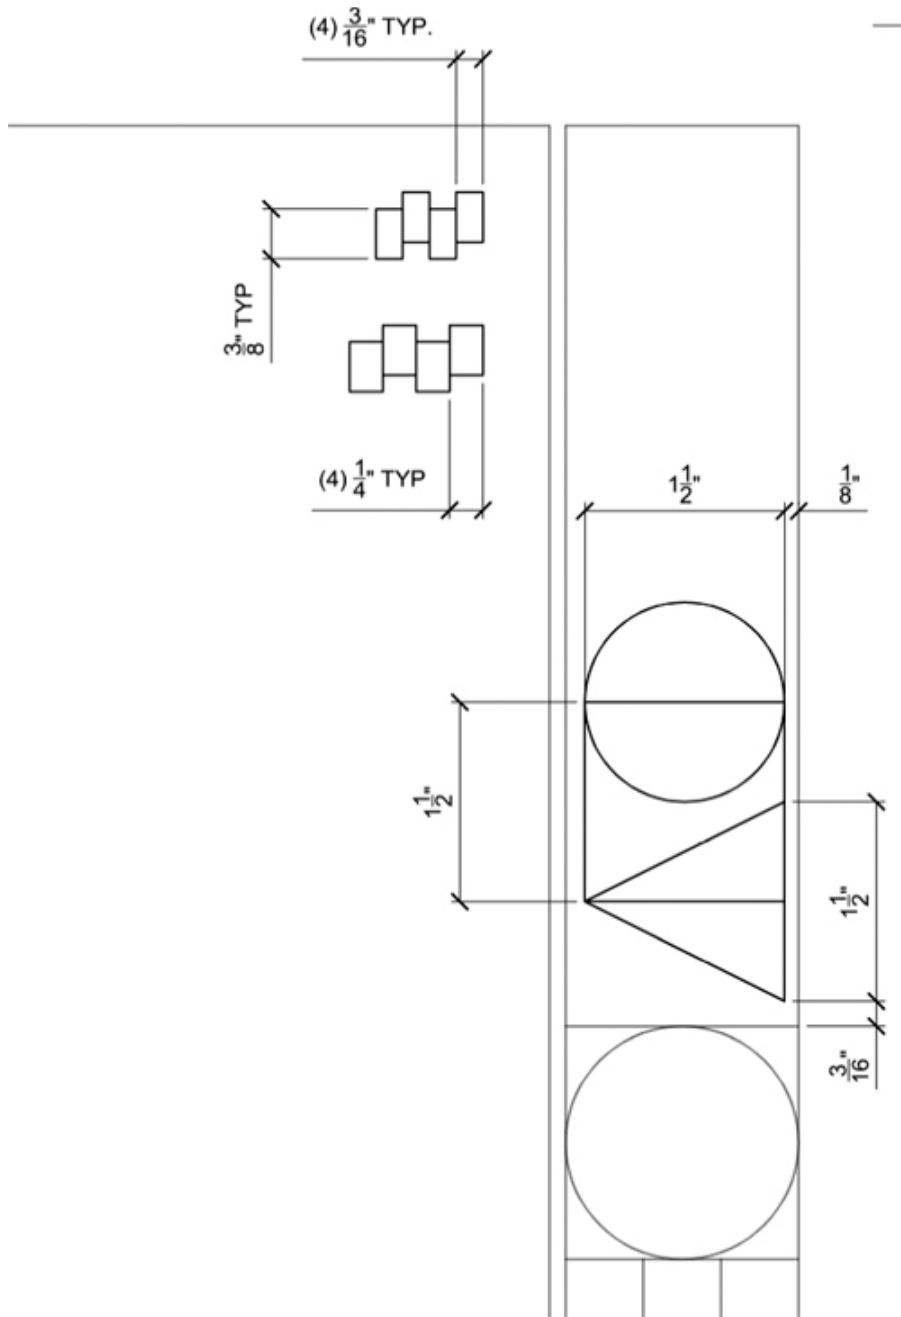

Figure 9-52
2. Create the logo outline and graphic scale outlines as shown in Figure 9-52 using polylines and a circle on the layer **A-Anno-Ttlb-Logo**. **Do not** draw dimensions.